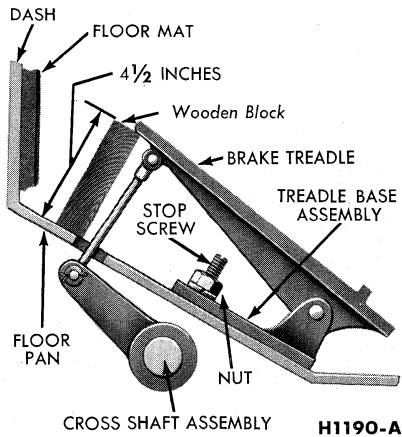

FIG. 11—Treadle and Linkage Adjustment
and place a 4½ inch wood block between the brake treadle and the floor pan sheet metal (Fig. 11).
3. While holding the treadle against the wood block (Fig. 11), adjust the clevis rod (Fig. 8), so that the clevis pin can be inserted through the adjusting clevis and the valve actuating arm.